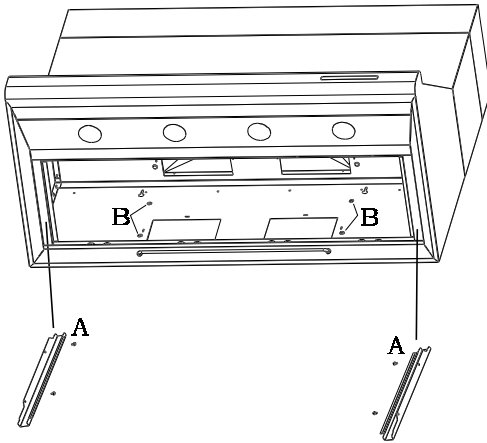

Figure 12
1. In the 30" PHE model remove the two spacers **A** shown in Figure 12. Each spacer is held in place by three screws.
2. For horizontal discharge install four M5 screws in location **B** as shown in Figure 12. Install the screws in the hood top plate for vertical discharge installations. Do not tighten screws.